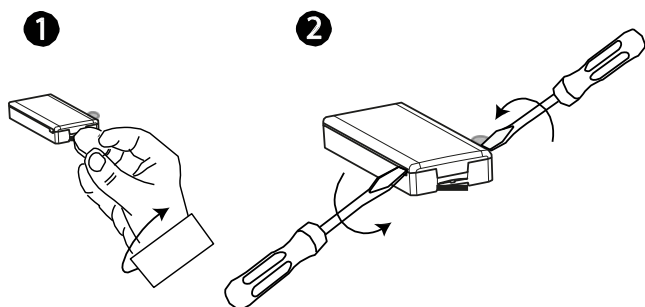

Figure 4: Device cover removal
1. Remove the device cover. See Figure 4.